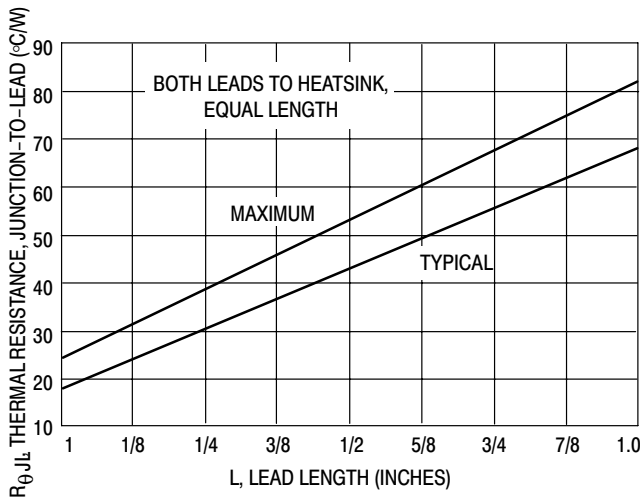

Figure 4. Steady-State Thermal Resistance
- Step 3. Find $P_{F(AV)}$ from Figure 4. **Read $P_{F(AV)} = 0.5 \text{ W}$